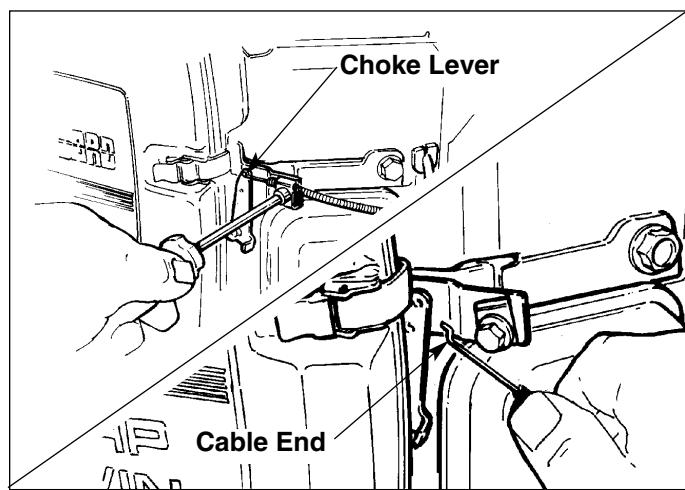

Figure B-31. Disconnect Choke Cable At Engine
1. Loosen the choke cable clamp on the engine using a phillips head screwdriver, and after noting the en-engagement of the cable end with the choke lever, remove the cable end from the choke lever (Figure B-31).